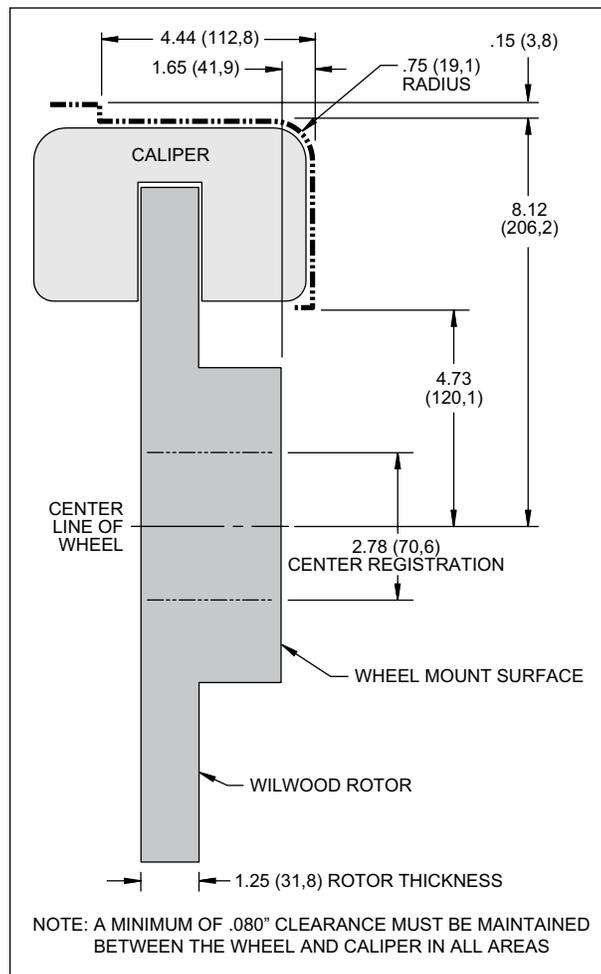

Figure 2. Wheel Clearance Diagram
- This kit requires a minimum of 18" or larger wheels and is unlikely to fit OEM factory wheels without wheel spacers. Aftermarket wheels are more likely to fit, but may require a wheel spacer. Please refer to wheel clearance diagram (Figure 2, page 3) for the specific sizing requirements to determine compatibility. Parts that have been installed may not be returned or exchanged.
•Verify your wheel clearance using Figure 2.